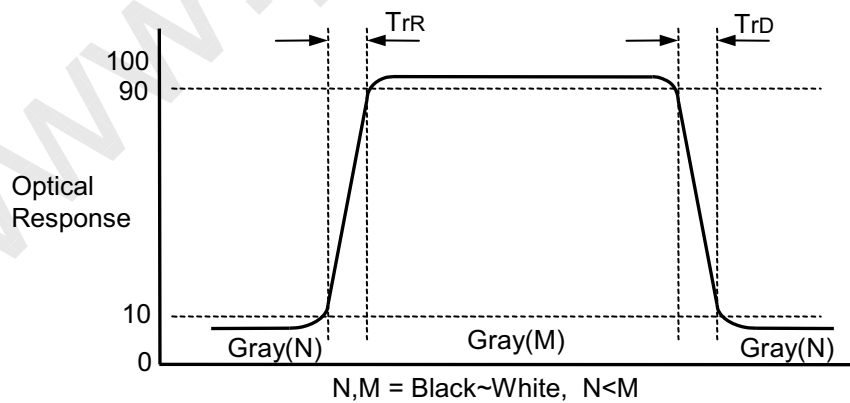

FIG. 3 Response Time
4. Response time is the time required for the display to transit from G(N) to G(M) (Rise Time, TrR) and from G(M) to G(N) (Decay Time, TrD). For additional information see the FIG. 3. (N<M)